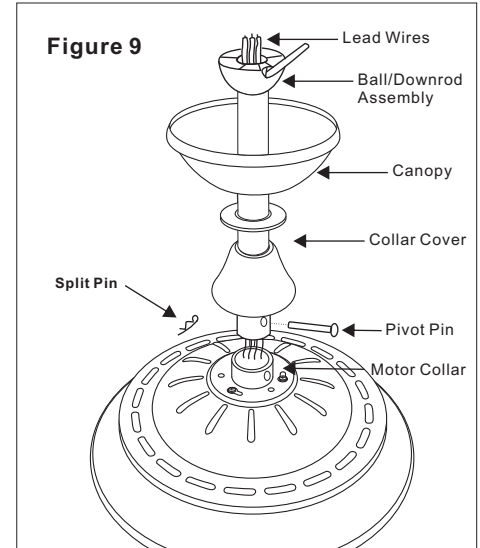

Figure 9
5. Slip coupling cover, canopy cover and canopy onto downrod. (Figure 9) Carefully reinstall hanger ball onto rod being sure that cross pin is in correct position, set screws are tightened and wires are not twisted.